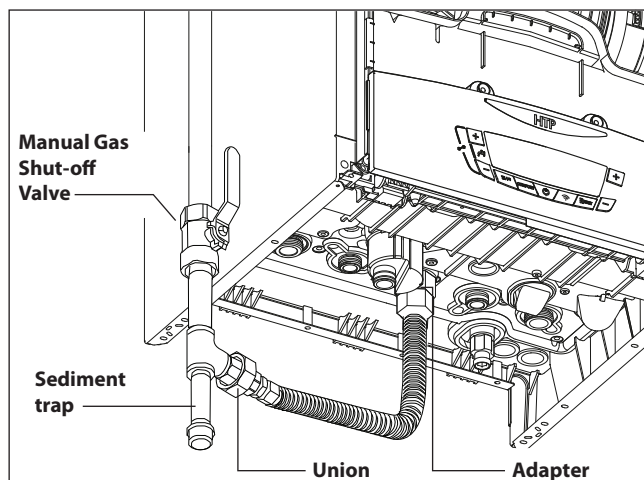

Figure 72 - Gas Line with Shut-Off and Sediment Trap Detail
4. The National Fuel Gas Code (NFPA 54) requires that a sediment trap (drip leg) be installed in the gas line on boilers not so equipped. The drip leg must be accessible, a minimum of 3" in length, and not subject to freezing conditions. See Figure 72.
5. A manual gas shut-off valve should be installed in the gas supply line close to the boiler. See Figure 72.